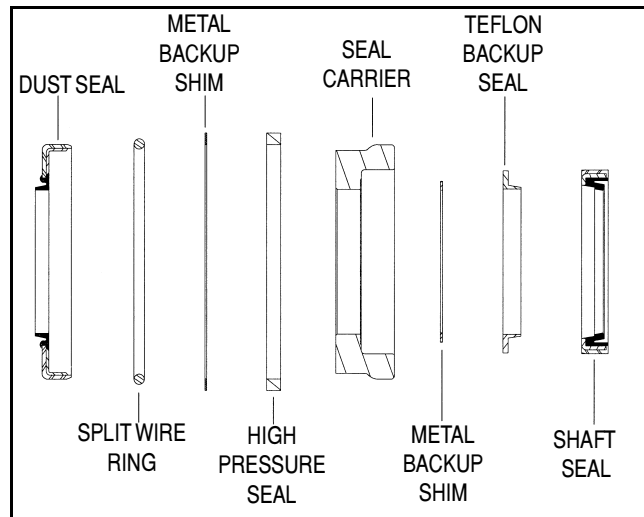

Figure 3-23. Seal Orientation
3. Install the shaft seal down onto the shaft making sure the lip on the seal faces down. Refer to Figure 3-23., Seal Orientation.